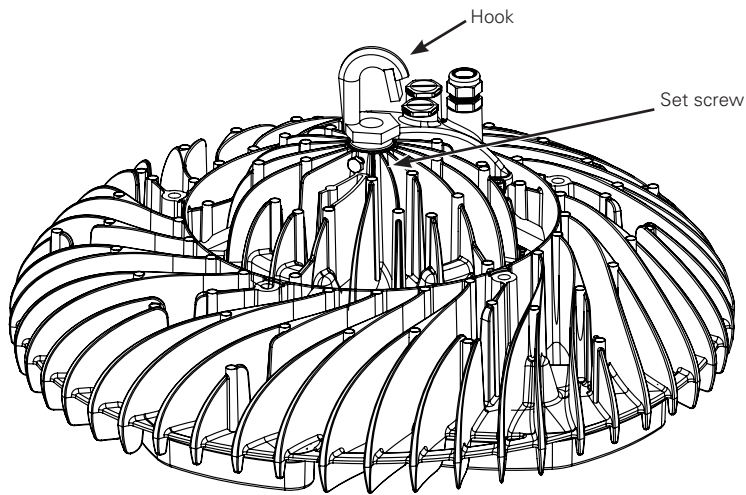

Figure 4
1. Thread the 3/4" NPT conduit hook into the luminaire until tight (see Figure 4).